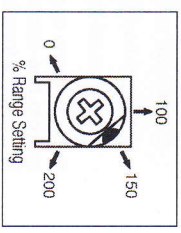

FIGURE 28 – CL TRIMPOT RANGE
F. Current Limit (CL) – Sets current limit (overload), which limits the maximum current to the motor. The current limit set point is established by the setting of jumper J2 and the setting of the CL trimpot. The CL trimpot is factory set for 150% of J2 range setting, as shown in Figure 28. For a higher current limit setting, rotate the trimpot clockwise. For a lower current limit setting, rotate the trimpot counterclockwise. Two modes of current limiting operation are provided: Non-Timed Current Limit (NTCL) and Timed Current Limit (TCL). See Section IV.C, on page 11.